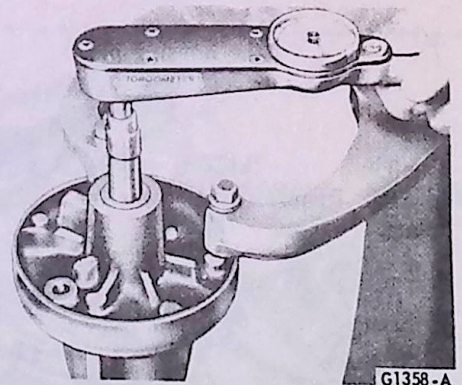

FIG. 20 Checking Pump Rotational Torque
24. Install a 3/8 x 16 hex head screw, finger tight, into the end of the rotor shaft. Using a torque wrench, check the input torque of the shaft (Fig. 20). The torque should not exceed 15 in-lbs. If it does, loosen the retaining bolts slightly, rotate the rotor shaft, re-torque the bolts evenly and again check the shaft torque. The pump must not be used if the shaft torque exceeds 15 in-lbs.